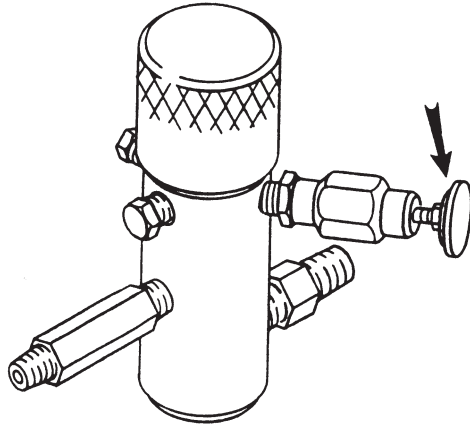

FIGURE 4
6. Open the Pressure Bleed Valve by turning it counterclockwise. This relieves pressure. See Figure 4.
- D. Close Pressure Bleed Valve by turning it clockwise. This allows the system to pressurize. Hold gun trigger open, without spray tip attached, until the fluid flows smoothly. See Figure 4.